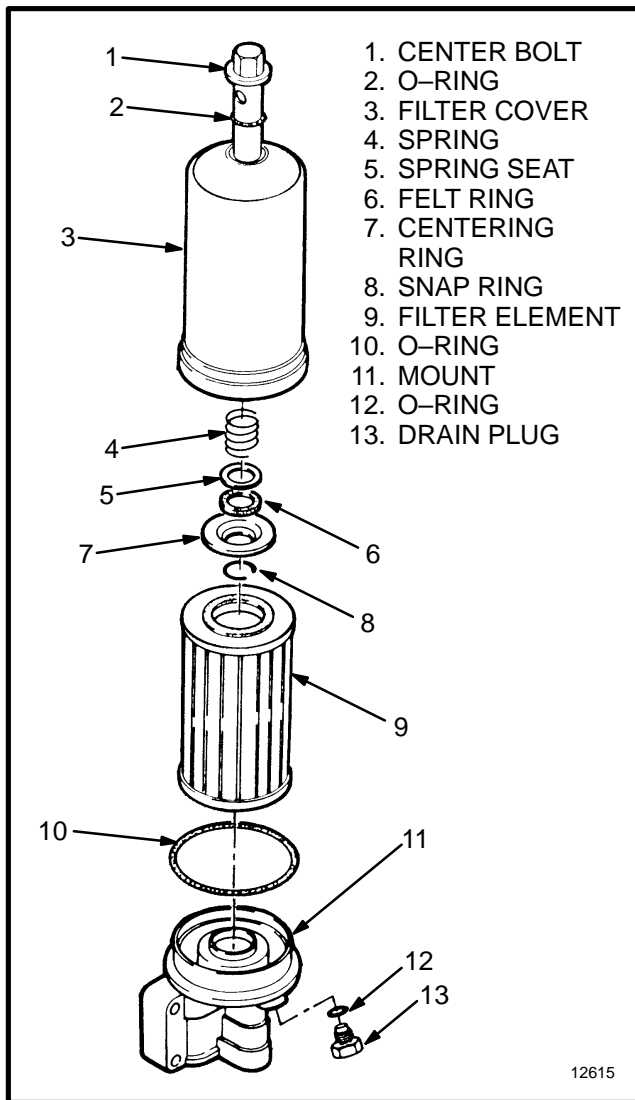

FIGURE 20. OIL FILTER, EARLIER PRODUCTION ISUZU C240 ENGINES
Change the oil filter at the same time engine oil is changed. Use the correct oil according to the specifications. See FIGURE 20. Remove the drain plug (14) in the mount for the filter and drain the oil. Loosen the center bolt and remove the filter cover (3) and filter element (9). Clean the filter cover and install a new filter element. Make sure the O-rings and other parts are in their correct positions. Tighten the center bolt for the filter cover. Check for leaks when the engine can be operated.